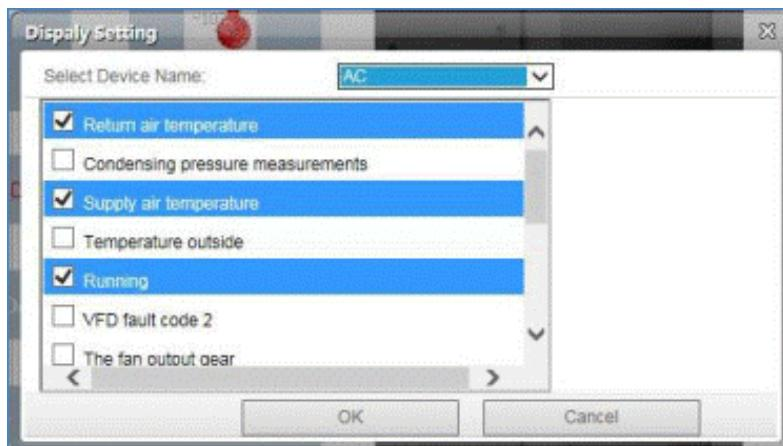

Figure 4-43 Display settings
- The Display settings can be set by clicking on the Set Display button. Click on Set Display and a dialog box pops up as shown in Figure 4-43.